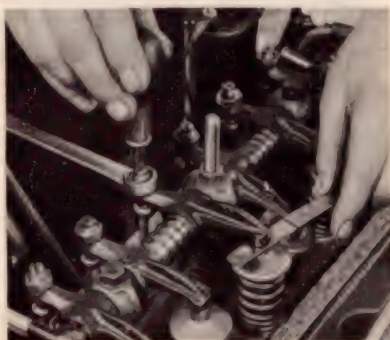

Fig. 27—Valve Tappet Adjustment
3. Check the clearance between the rocker arms and the valve spring cap covers with a feeler gauge (fig. 27). The clearance should be as follows:
4. When adjustment is necessary loosen the rocker arm adjusting screw lock nut and turn the screw clockwise slightly to decrease clearance and counterclockwise to increase clearance (fig. 27). Tighten lock nut and recheck clearance.